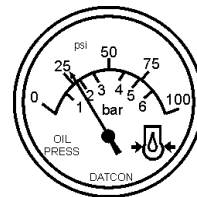

Figure 33. Oil Pressure Gauge
13. The engine oil pressure gauge (Figure 33) will indicate the oil pressure (kg/ cm²) of the engine. Under normal operating conditions the oil pressure should be approximately 25 psi.